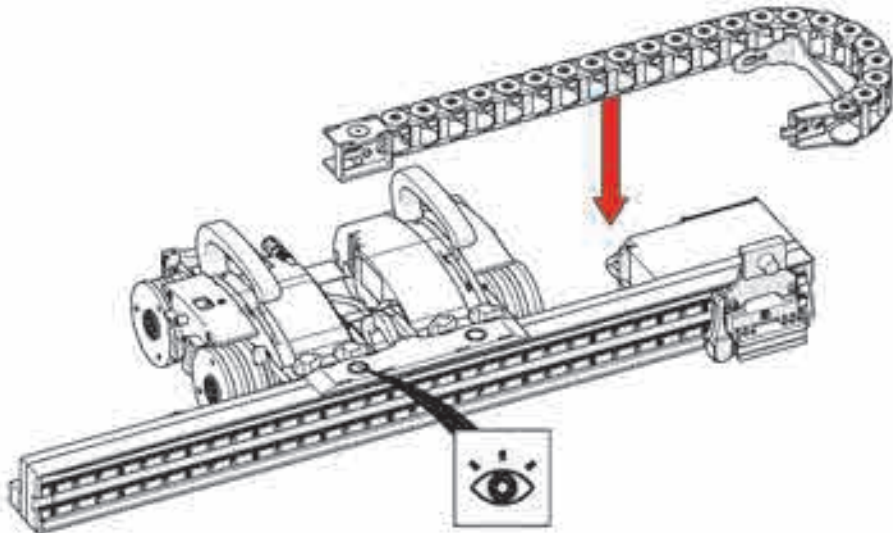

Figure 4-40 Attaching the cable tray
1. Attach the cable tray's magnetic end to the magnetic base on the raster arm. Ensure the four divots are aligned with notches on the magnetic end (see Figure 4-40 on page 125).